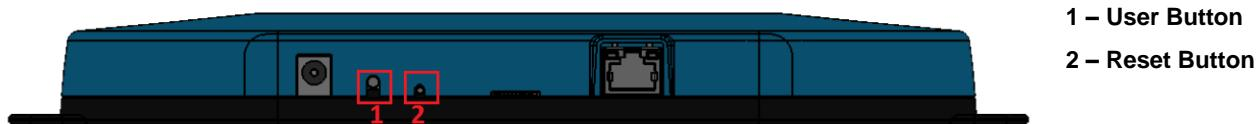

Figure 41: Performing a factory reset
1. Hold the user button while power is applied **OR** hold the user button while you press the reset button (Figure 41).